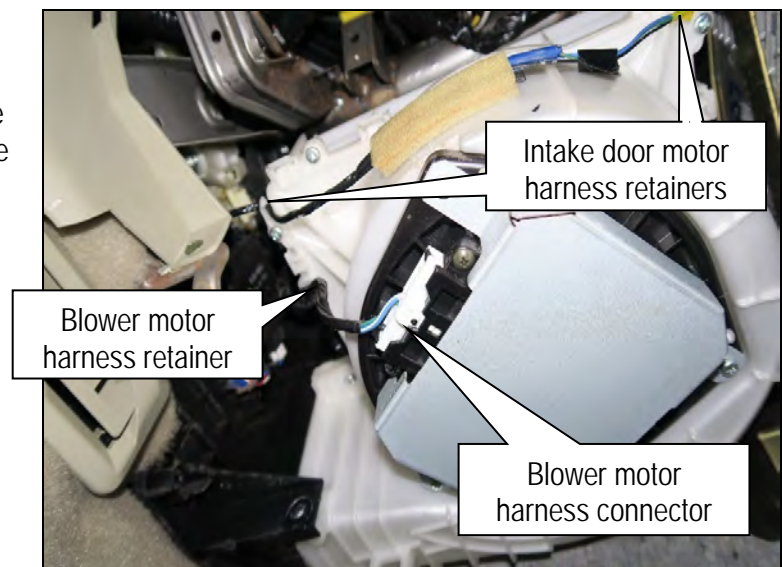

Figure 11
- b. Disconnect the blower motor harness connector and disengage the blower motor harness from the retainer (Figure 11).